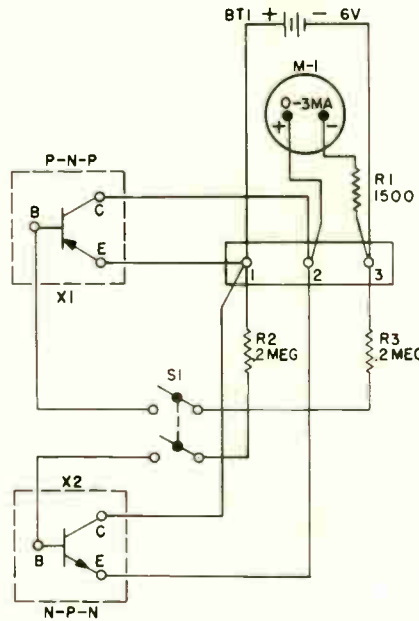

Fig. 1 Circuit diagram for transistor tester
A rather simple circuit which can be used to effectively check both P-N-P and N-P-N transistors is shown in Fig. 1. This circuit can be used to construct an inexpensive transistor tester. Since the circuit contains such a few parts, construction details and layout have been intentionally omitted.
** Two SPST push-button type switches can be used. The top switch in Fig. 1 would be used for testing P-N-P type transistors and the other for N-P-N types.